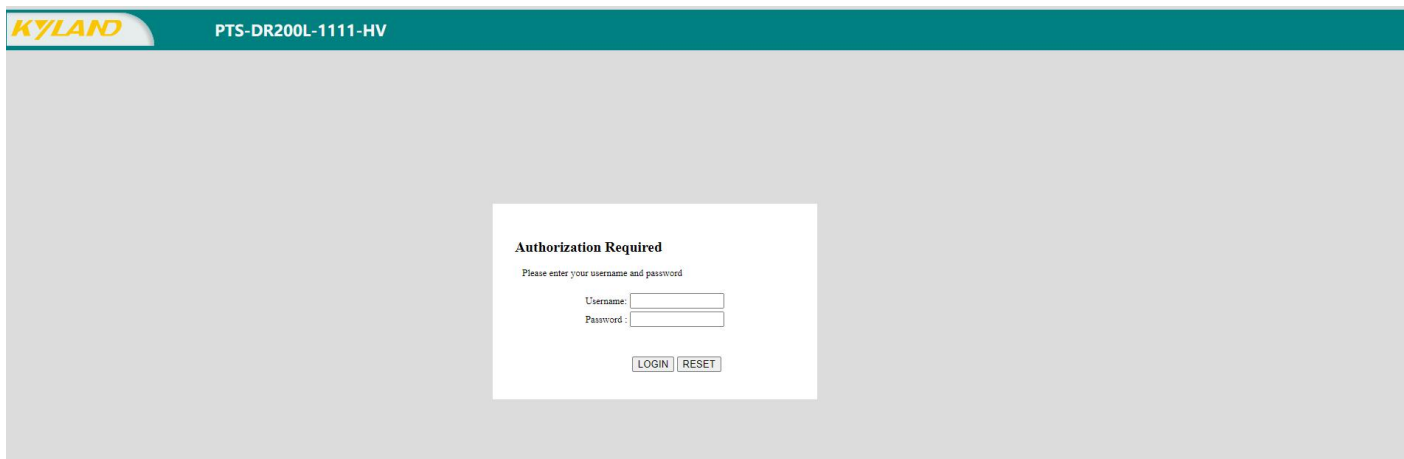

Figure 2 Web Login
1. Enter "IP Address" in the address bar of the browser, and the login dialog box appears as shown in Figure 2. Enter the default user name "admin" and password "pwd\$4\$Kyland", or enter other created user names and passwords, and click the < Login > button;